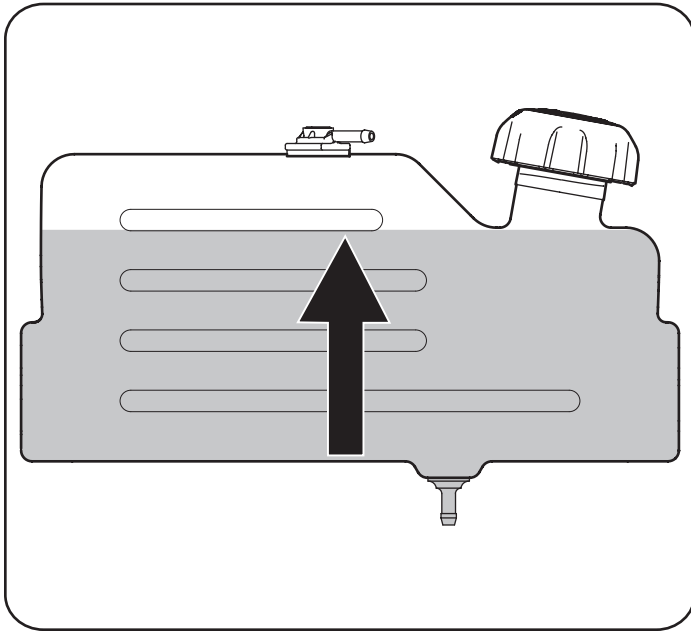

Figure 8
2. Fill the fuel tank with gasoline. Use only clean, fresh (no more than 30 days old), unleaded gasoline. Fill tank to the base of the filler neck to allow space for fuel expansion. **DO NOT TOP OFF THE TANK WITH FUEL.** See Figure 8.